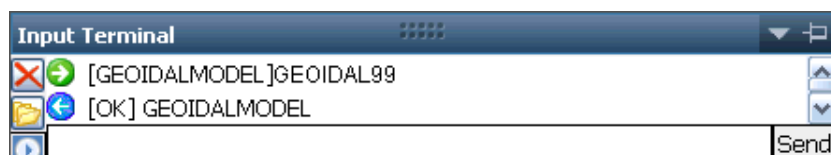

Figure 84: [GEOIDALMODEL] GEOIDAL99 Command and Response
8. Type [GEOIDALMODEL]GEOIDAL99 in the *Input Terminal* window and click the *Send* button (see Figure 84).